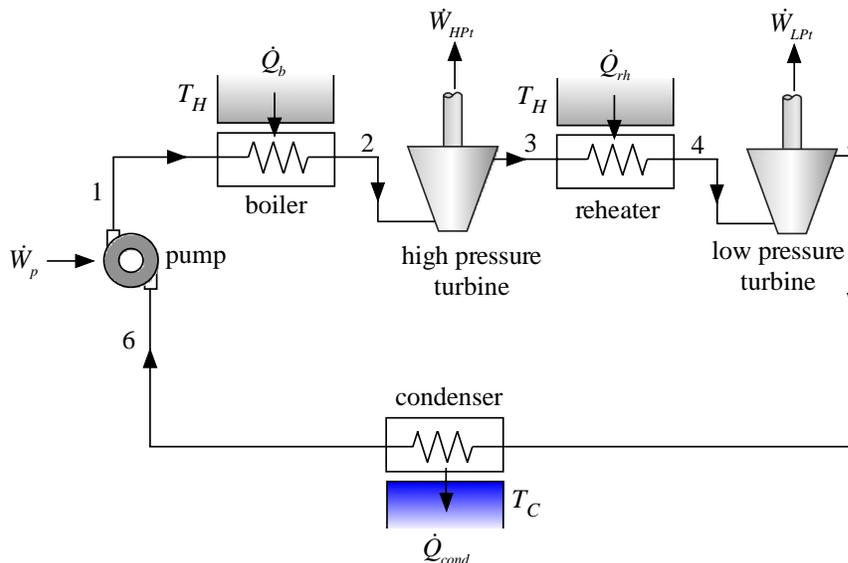

Figure 8.A-4(a): Rankine cycle with reheat.
- 8.A-4 Figure 8.A-4(a) illustrates a Rankine cycle with reheat. Water leaves the condenser as saturated liquid at $T_6 = T_C = 30^\circ\text{C}$. The water is compressed in a reversible pump to $P_1 = P_b = 8.0\text{ MPa}$. The boiler heats the water at constant pressure to $T_2 = T_H = 600^\circ\text{C}$. The water leaves the boiler and passes through the high pressure turbine where it is expanded to $P_3 = P_{reheat} = 0.7\text{ MPa}$. The efficiency of the high pressure turbine is $\eta_{HPT} = 0.87$. The water is reheated at constant pressure to $T_4 = T_H = 600^\circ\text{C}$ and then expanded in the low pressure turbine to the condenser pressure, $P_5 = P_6$. The efficiency of the low pressure turbine is $\eta_{LPT} = 0.89$.
- Create an arrays table that includes the pressure, temperature, enthalpy, and entropy of each of the states 1 through 6 in Figure 8.A-4. Determine the energy transfer per unit of mass flow rate for each of the components.